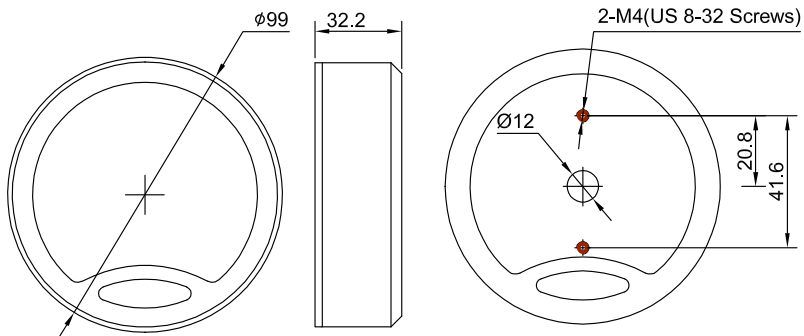

Fig. 2
7. Drill and tap two mounting holes for two M4(US Standard 8-32 UNC 2B) screws, one spindle hole on the safe front door or plate. Make sure three holes' center should be in one vertical line. The maximum diameter of the hole for the spindle is 12mm, and the minimum is 11mm. Big holes are not permissible. (Fig. 2)